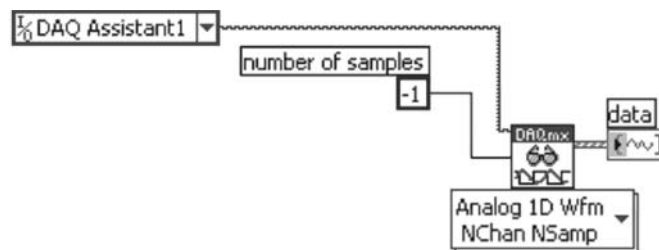

Figure 11.16 DAQ Assistant generated code.
**Step 2:** View the block diagram. Notice that the DAQ Assistant generated all the code necessary to run the task, as shown in Figure 11.16. All of the timing information you set is contained in the DAQmx Task Name constant.